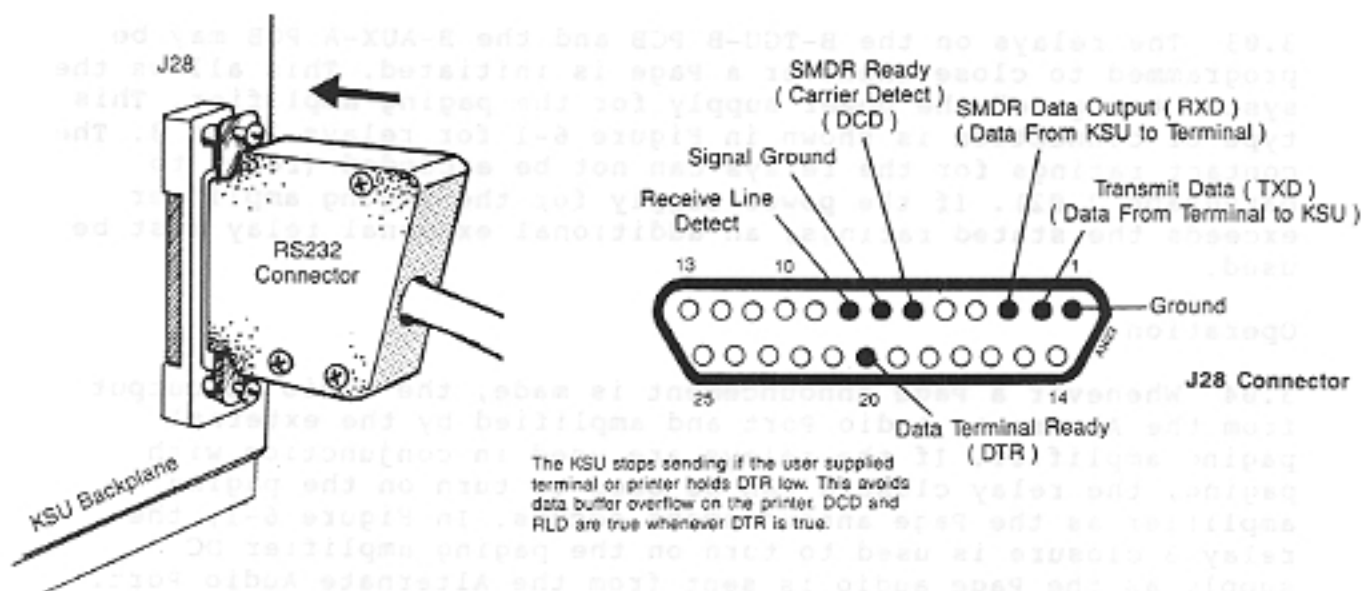
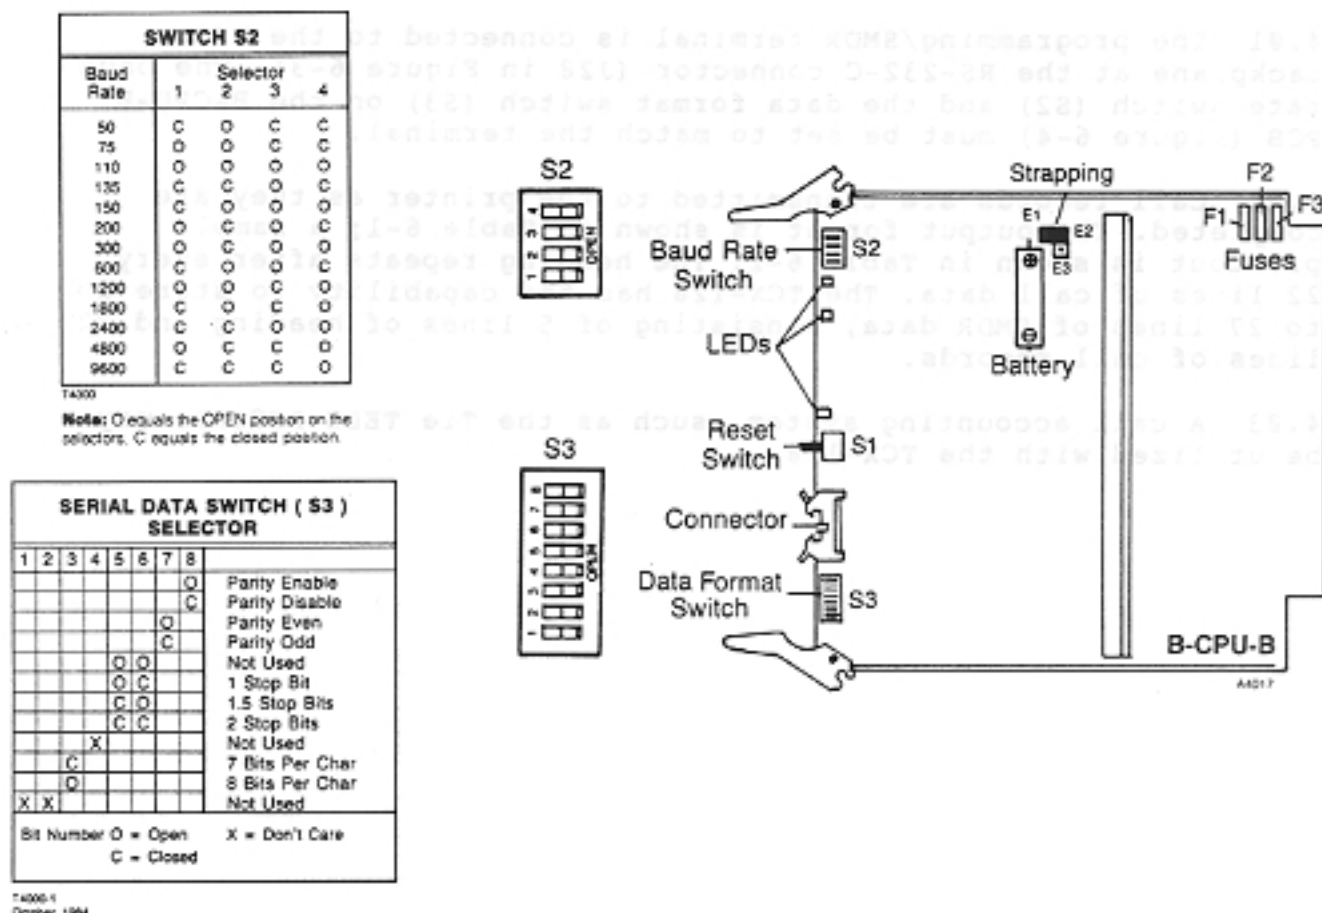

Figure 6-3 RS232C INTERFACE CONNECTOR AND PIN ASSIGNMENT (J28), TCX-128
Figure 6-4 BAUD RATE AND SERIAL DATA SWITCH ON B-CPU-B, TCX-128
4.01 The programming/SMDR terminal is connected to the KSU backplane at the RS-232-C connector (J28 in Figure 6-3). The baud rate switch (S2) and the data format switch (S3) on the B-CPU-B PCB (Figure 6-4) must be set to match the terminal.